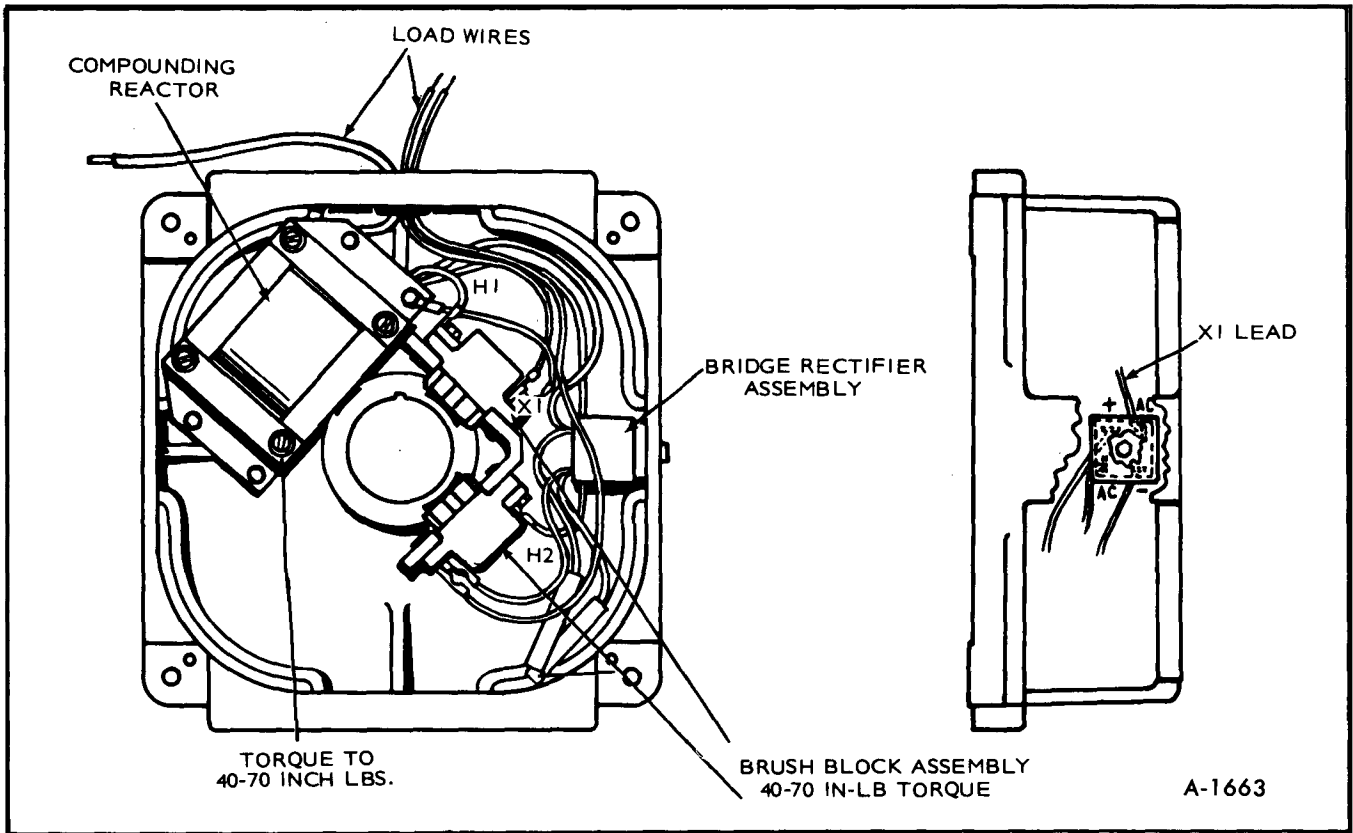

Figure 86—End Bell Assembly
1. Loosen No. 8-32 screw to remove bridge rectifier assembly (See figure 86 for location).